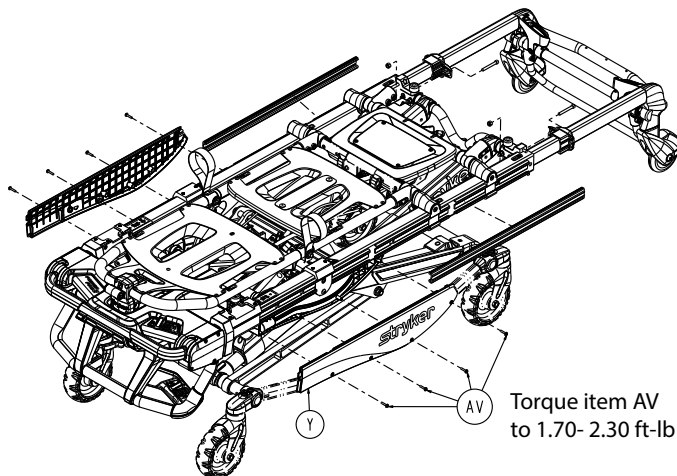

Figure 95 – Remove the slider block cover screws
10. Using a T25 Torx driver, remove the four round washer head tapping screws (AV) that secure the slider block cover (Y) to the slider block (Figure 95). Save the screws.